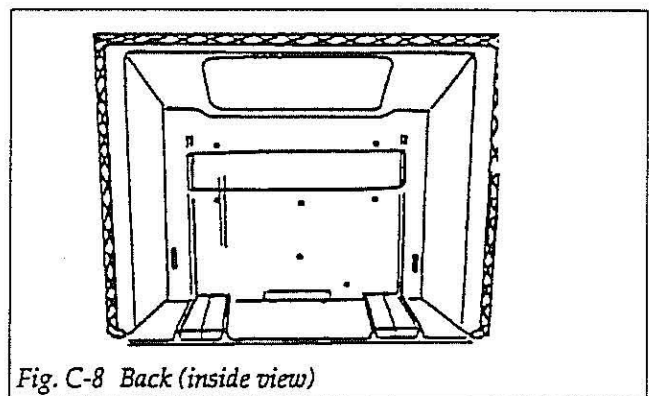

Fig. C-8 Back (inside view)
13. Apply cement to the grooves in the back. See figure C-8. Put the stove back into position. It will be easiest to have a helper hold it in place temporarily. Install the stove top, which captures the top edge of the back, and secure it with washers and hex nuts on the two threaded stems at the rear corners. Secure the front of the stove top to the stove front with one Phillips-head bolt, 1/4-20 x 1", passing downward through the notch where the griddle handle fits.